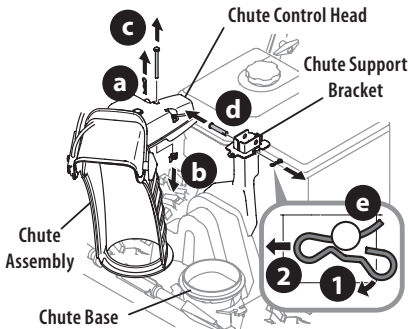

Figure 19
- Remove hairpin clip (a), wing nut (b) and hex screw (c) from chute control head and clevis pin (d) and bow-tie cotter pin (e) from chute support bracket (Figure 19).